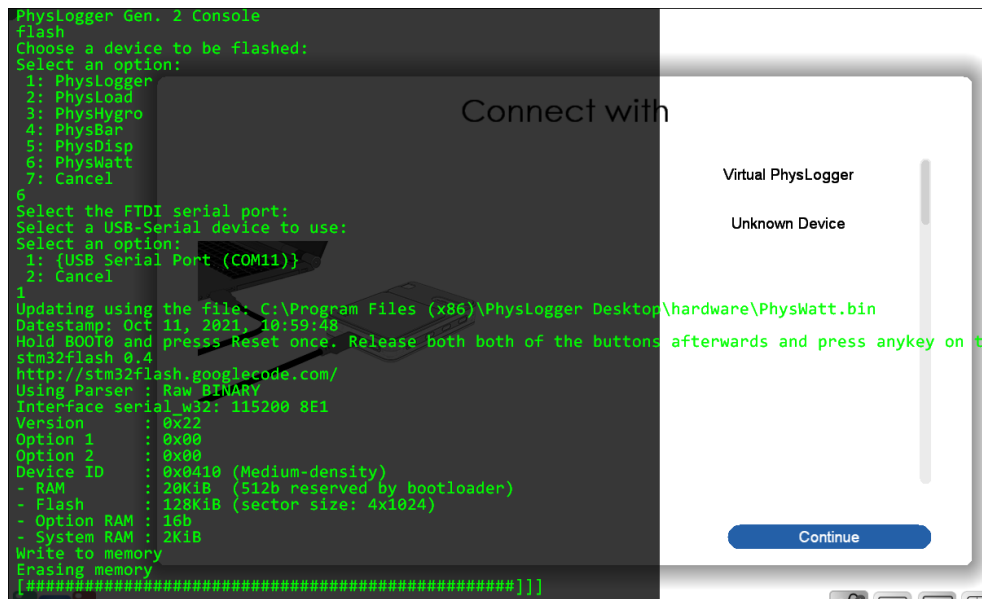

Figure 4: Typical messages that are displayed when flashing has been successfully completed.
- II. Select (6) PhysWatt as the device that needs to be flashed.
- III. Select (1), the serial port where the FTDI cable is connected. **Figure 4** shows a typical sequence of instructions and messages in the console.
- V. A message “#####]]]” as shown in Figure 4 will appear on the Console screen when flash firmware is complete. The display of three-box brackets “]]]” at the end of the message indicates a successful firmware process in that channel.